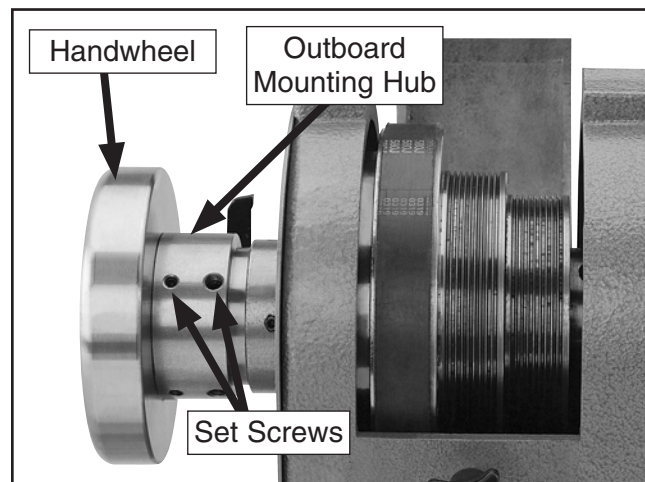

Figure 49. Outboard mounting hub.
10. Loosen the set screws closest to the handwheel on the outboard mounting hub (see **Figure 49**), unthread the handwheel, loosen the inner set of set screws, then remove the mounting hub.